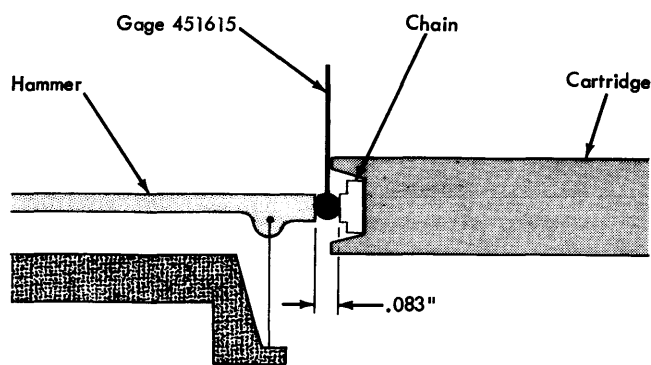

Figure 18. Chain-to-Hammer Positioning
2. Remove the ribbon and set the density control on E. Insert the .083" rod end of the tool (part 451615) between the hammer faces and the chain at the right (and also the left) end of the cartridge (Figure 18).